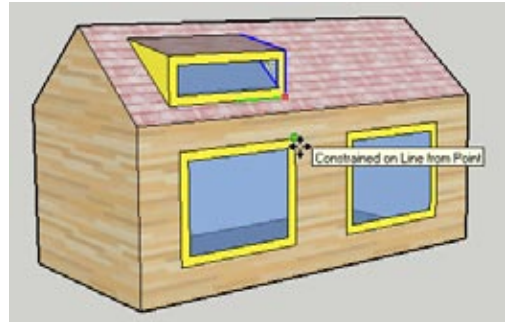

Figure 5-21
10. To make the dormer the correct width, select all of the vertical edges on the right side (use a left-to-right selection window and check your selection in Wireframe mode). Move the selected edges by any point on the right edge, Shift-lock the green (or red) direction, and click any point on the right edge of the window below the dormer (Figure 5-21).